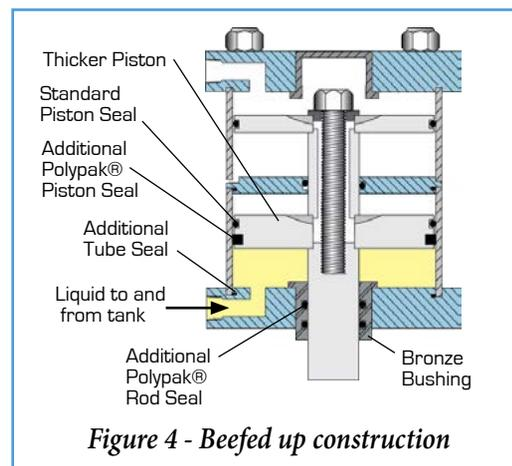

Figure 4 - Beefed up construction
**Standard Hydraulic Shock options are offered on all Multi-Power® Cylinders and Presses.** Seals on the piston, piston rod, and cylinder tube are increased in the single-stage retract section (Shown yellow in Figure 4). Dynamic Poly-Pak® seals combine an automatic lip type seal with an O-spring energizer for excellent sealing from zero to 500 psi. Piston thickness is increased.